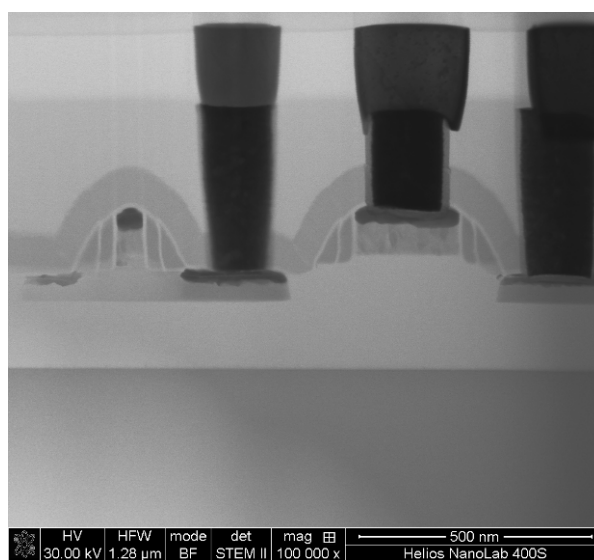

Fig 4. A 30 keV BF STEM image of the resulting TEM sample free from curtaining artifacts.
The flipstage design also accommodates a retractable STEM detector within the instrument. With the lamella at the milling orientation (facing the ion column), the thinning process can be monitored by real time imaging with the STEM detector using Bright Field (BF), Dark Field (DF) and High Angle Annular Dark Field (HAADF) modes – all simultaneously. When the thinning process is complete, the alpha tilt angle can be set for STEM imaging, such that the plain of the lamella is perpendicular to the electron beam (Fig. 4).